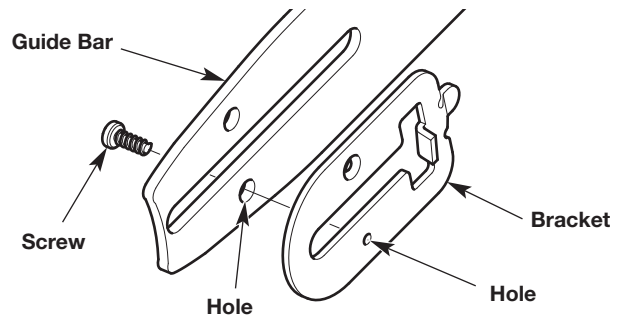

Fig. 32
5. Use a small Phillips screwdriver to remove the screw that holds the bracket onto the guide bar (Fig. 32).
1. Place the bracket onto the guide bar (Fig. 32). Align the hole on the bracket with the hole on the guide bar (Fig. 32). Insert the screw into the aligned holes (Fig. 32). Tighten the screw securely with a small Phillips screwdriver.